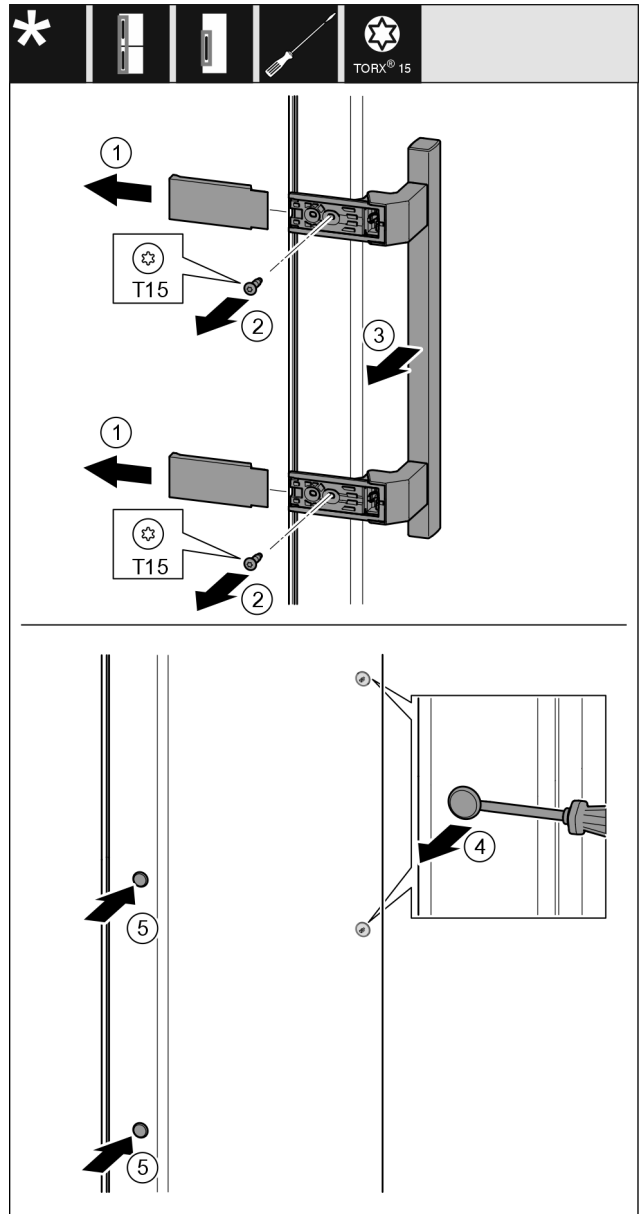

Fig. 32
- ▶ Remove the cover Fig. 32 (1).
- ▶ Unscrew screws Fig. 32 (2) with screwdriver.
- ▶ Remove the handle Fig. 32 (3).
- ▶ Use a slotted screwdriver to lift the side plug Fig. 32 (4) carefully and pull it out.
- ▶ Re-insert the plug Fig. 32 (5) on the other side.